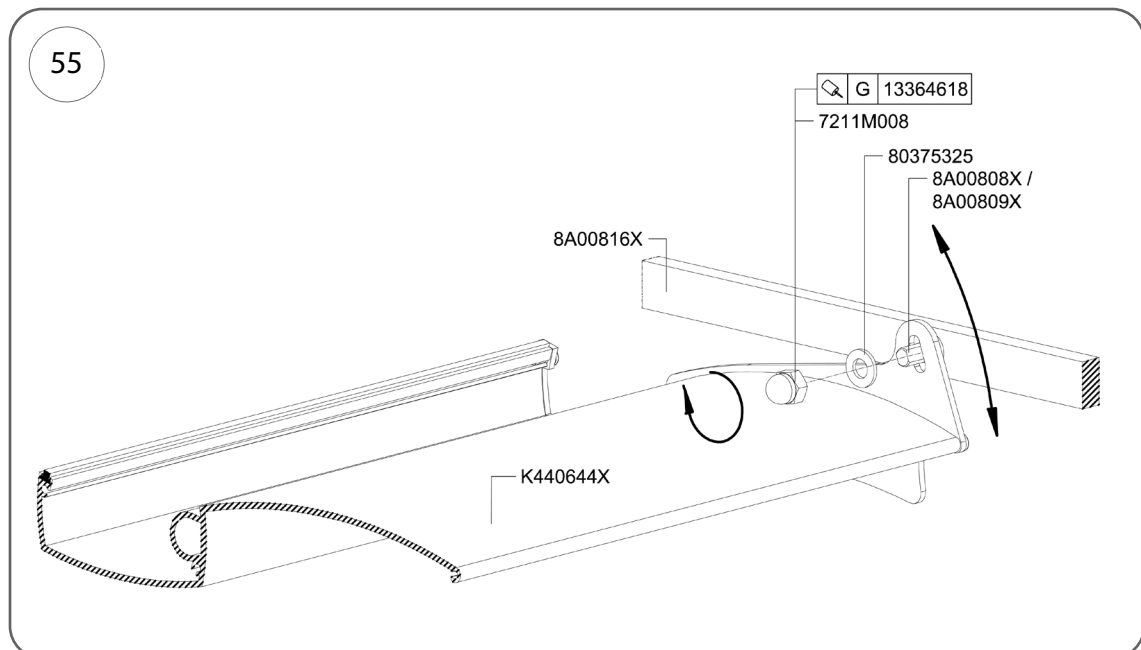

Fig. 55
4. In the closed end position, check that the slat profiles fit together properly. The K440644X profile must make contact with seal cat. no. 8G00309X. If the above fit is not achieved, adjust the position of the slats using the adjustment system as shown in Fig. 55. Once the roof has been positioned, secure the slats by tightening the locking nut (cat. no. 7211M008). Apply thread sealant (cat. no. 13364618) to the thread.